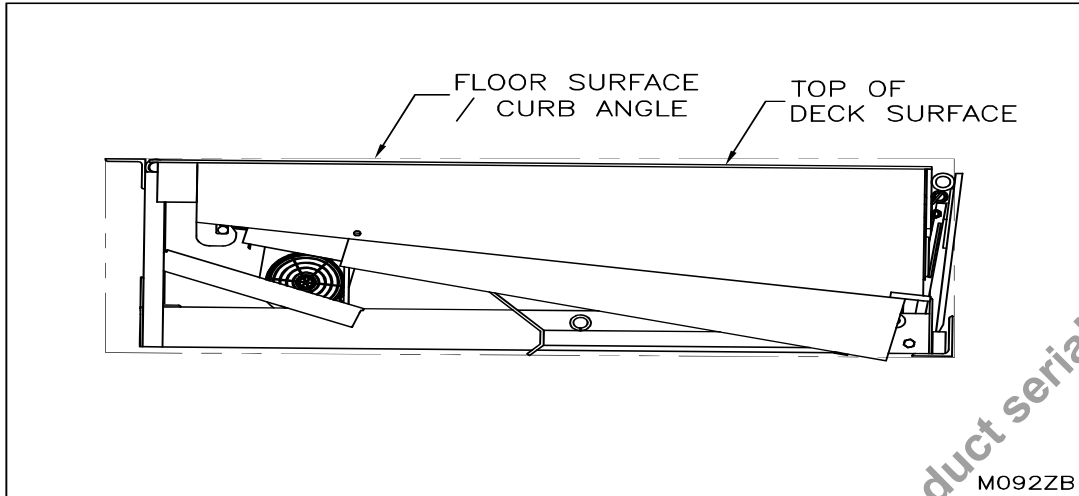
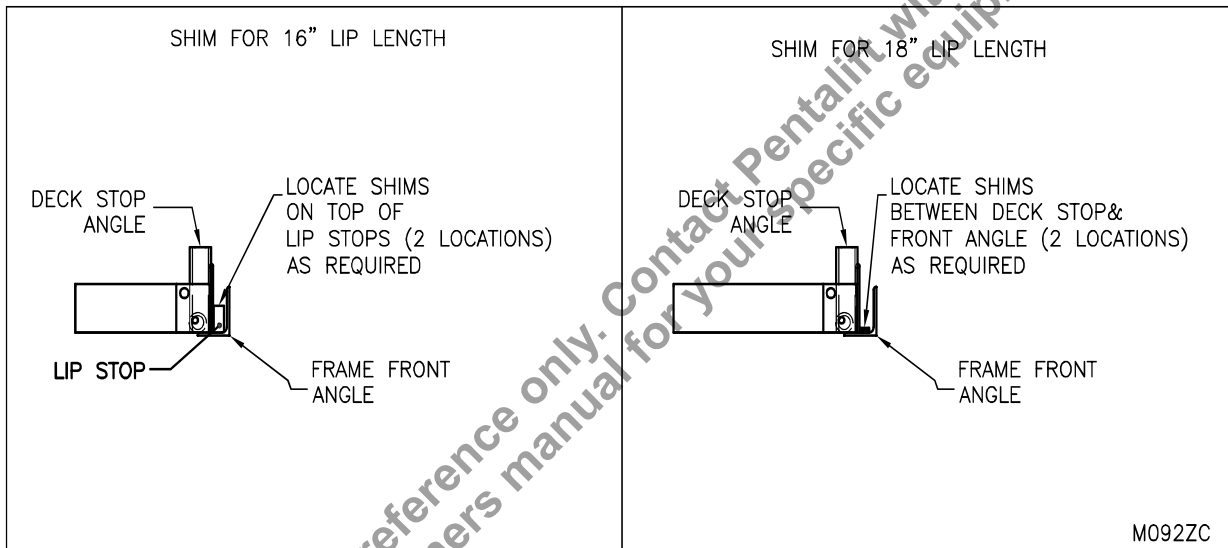
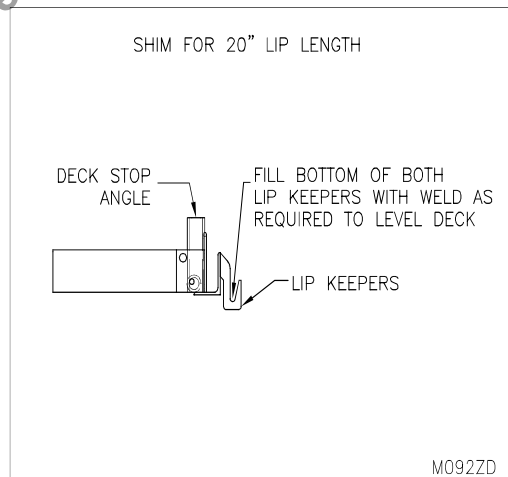

Figure 40: Deck Alignment
Figure 41: Shimming 16" & 18" Lips
Figure 41A: Shimming 20" Lips
13. For any model of air powered dock leveler, review the position of the top edge of the dock leveler deck relative to the top of the curb angle (See “Figure 40: Deck Alignment” on page 36). If the deck is too low in relation to the installation requirements, shim the dock leveler using steel shim(s) on both sides as indicated in “Figure 41: Shimming 16” & 18” Lips” on page 36 and in “Figure 41A: Shimming 20” Lips” on page 36.